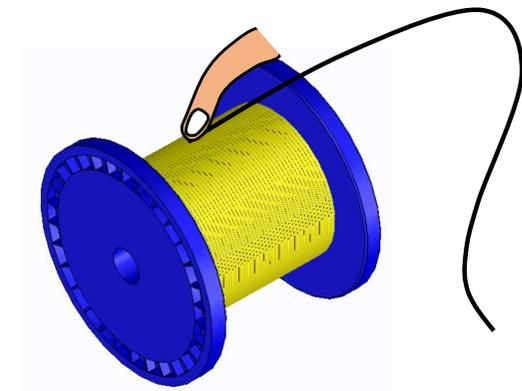

Fig.8
- ③ Confirm that wire crossing is resolved. (Fig.8)
- ④ If crossing is not resolved, please continue the corrective action again.